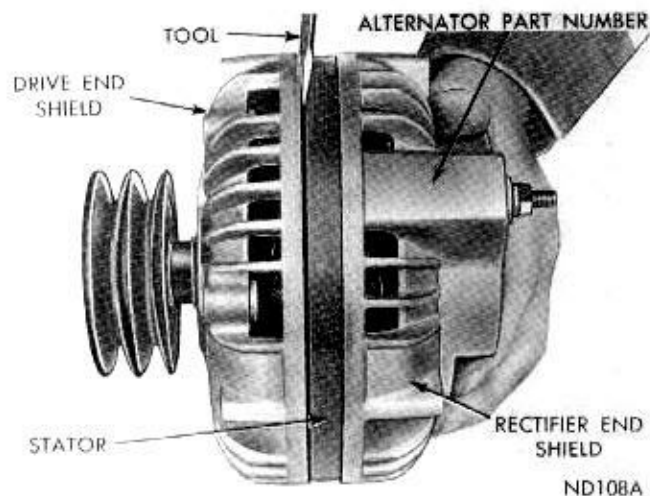

Fig. 9—Separating Drive End Shield From Stator
(3) Remove through bolts and pry between the stator and drive end shield with blade of a screwdriver (Fig. 9). Carefully separate drive end shield, pulley and rotor assembly away from stator and rectifier shield assembly.